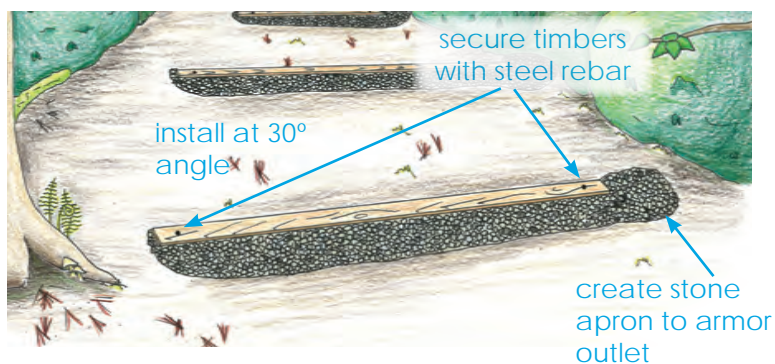

Figure 1. Top view of waterbar.
**STEP 1. Dig.** Dig a trench for the wood timber or log that is at approximately a 30° angle across the path. The trench should be deep enough so the top of the timber or log will be almost flush with the trail on its downhill side once in place. Be careful to dig only as deep as needed to set the timber to make sure that the soil under the water bar is stable. Store soil and rocks excavated from the trench on the trail below the water bar to be used later to backfill the trench (Figures 1 and 2).